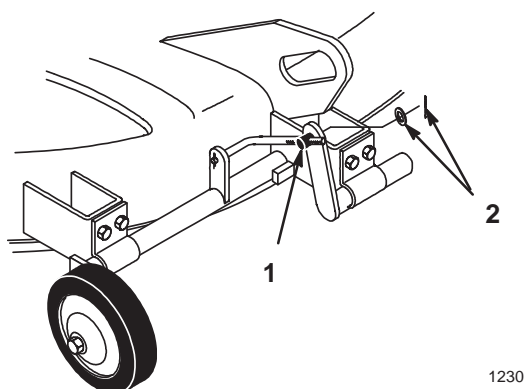

Figure 10
4. Raise attachment lift lever to release pressure on the gage wheels. Remove hairpin cotter and washer from trunnion (Fig. 10).
5. Rotate trunnion to adjust side-to-side level adjustment (Fig. 10).